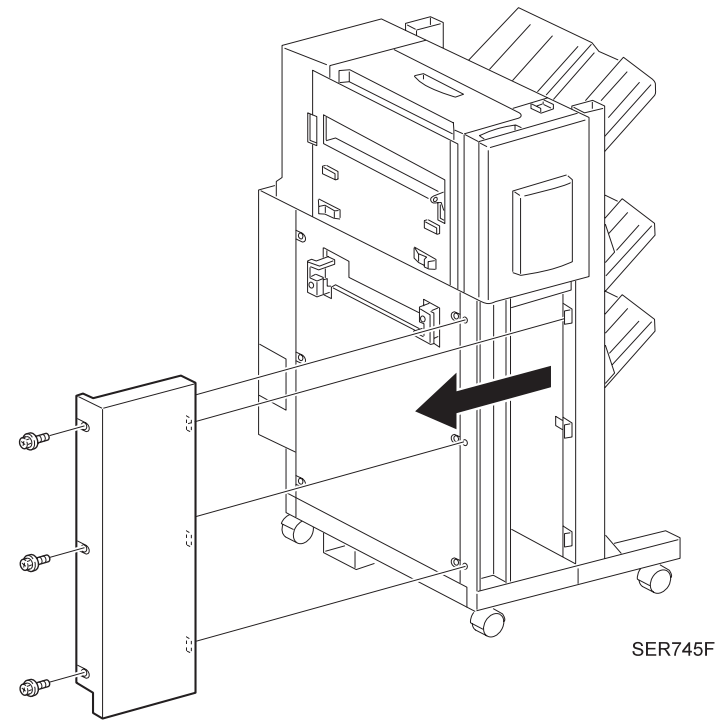

Figure 3-7. Front Low Cover
1. Place Front Low Cover as shown in the Figure 3-7.